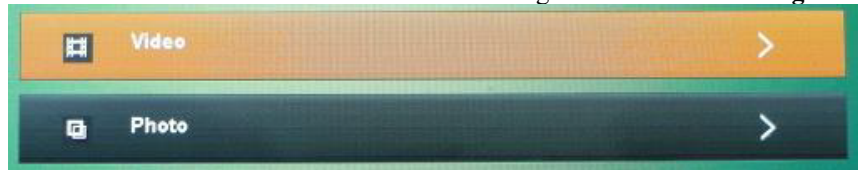

Figure 11
21. Use this menu to view stored videos and images on the controller. **Fig. 11**